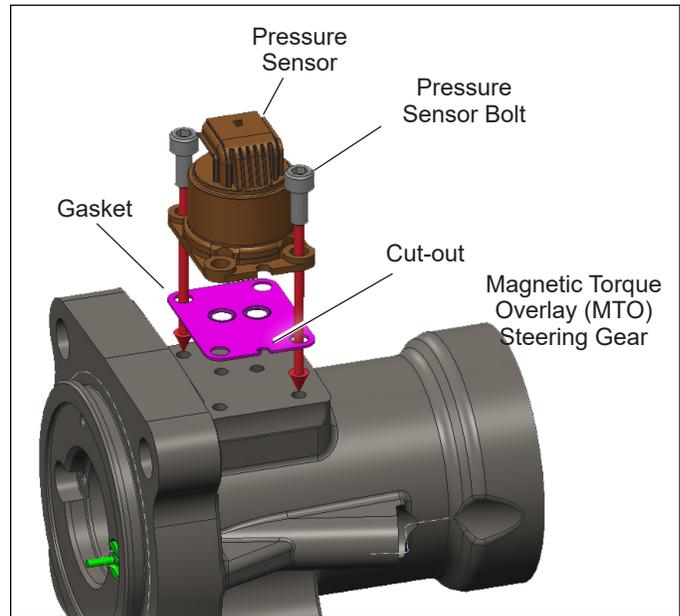

Figure 15 – Pressure Sensor and Gasket
5. Hand start and torque the front left and back right bolts to 13-16 ft-lb (17.6-21.7 N•m) through the tabs of the pressure sensor cover with the 5-mm hex (Allen) bit. See Figure 15.